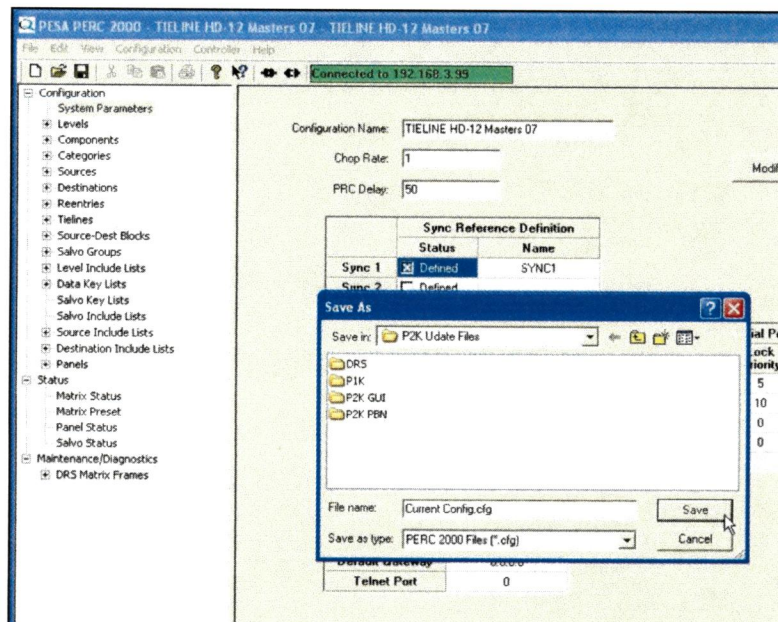

Figure 9. Save As Browse Box
7. The Save As box, Figure 9, is displayed. Select a folder for the file, give the configuration file a name and click **Save** to save the file on the host PC.